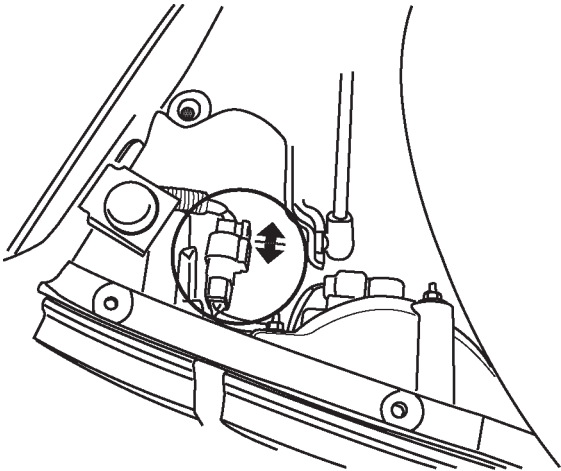

FIGURE 2
- Disconnect LH & RH tail lamp wire harness. Refer to figure 2.